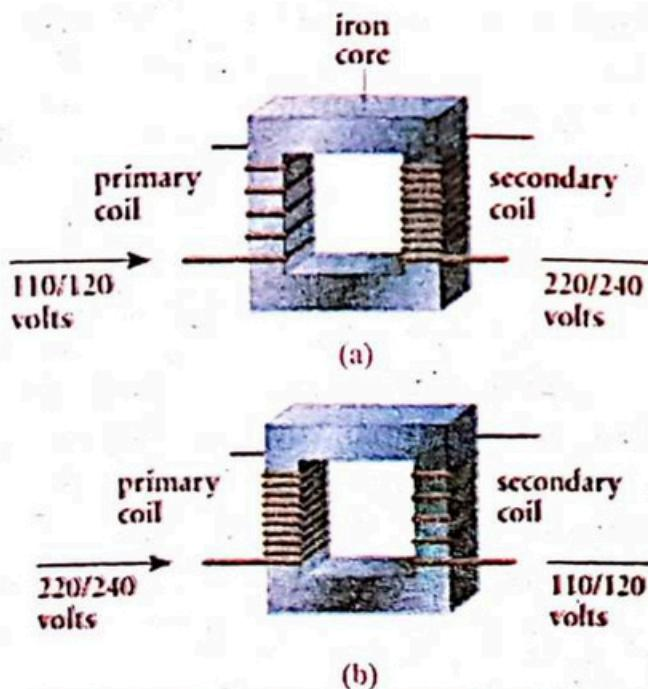

Fig.14.19(a) Step up transformer, where $N_s > N_p$ and $V_s > V_p$ (b) step down transformer, where $N_p > N_s$ and $V_p > V_s$.
1. Step Up Transformer: If the number of turns of secondary coil ' N_s ' is greater than the number of turns of primary coil ' N_p ' and output voltage ' V_s ' is more than input voltage ' V_p ' then the transformer is said to step up transformer as shown in Fig.14.19(a).
2. **Step Down Transformer:** If the number of turns of secondary coil 'N_s' is less than the number of turns of the primary coil 'N_p' and the output voltage 'V_s' is smaller than input voltage 'V_p' then the transformer is said to be step down transformer as shown in Fig.14.19(b).